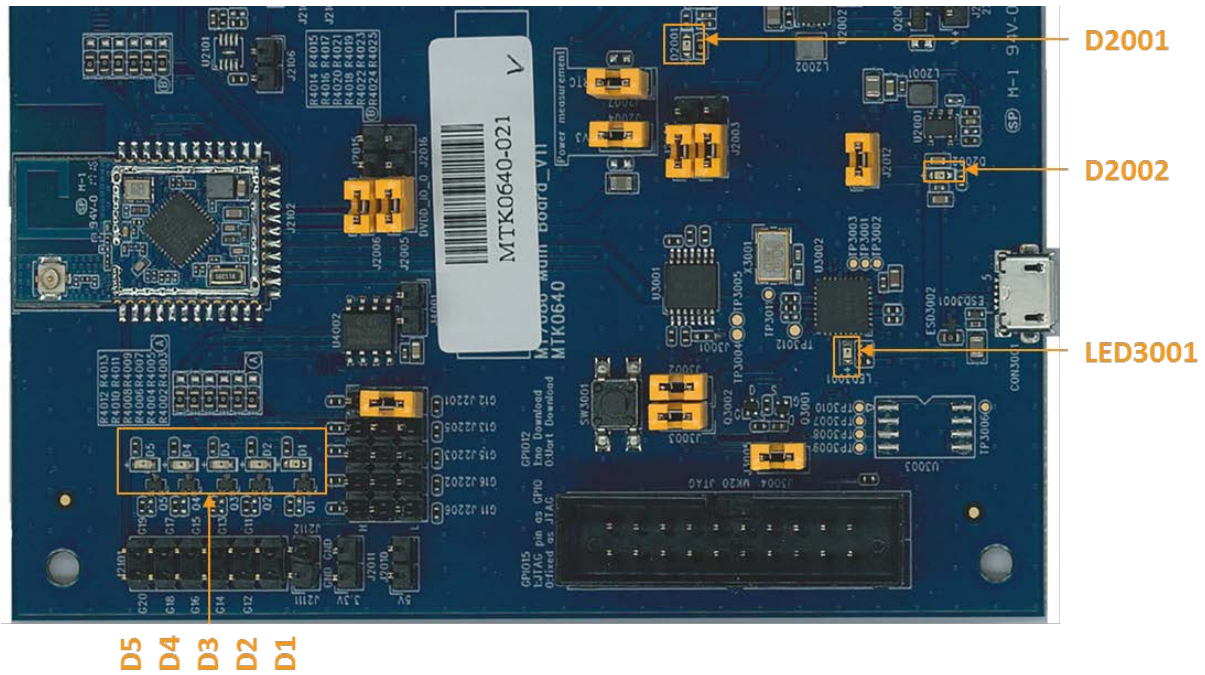

Figure 6. On-board LEDs
The MT7682 HDK has onboard LEDs associated with different functionalities of the board (Figure 6).
- 4) **D1, D2, D3, D4**, and **D5** are LEDs assigned for user interaction. All LEDs are high active (Figure 6).